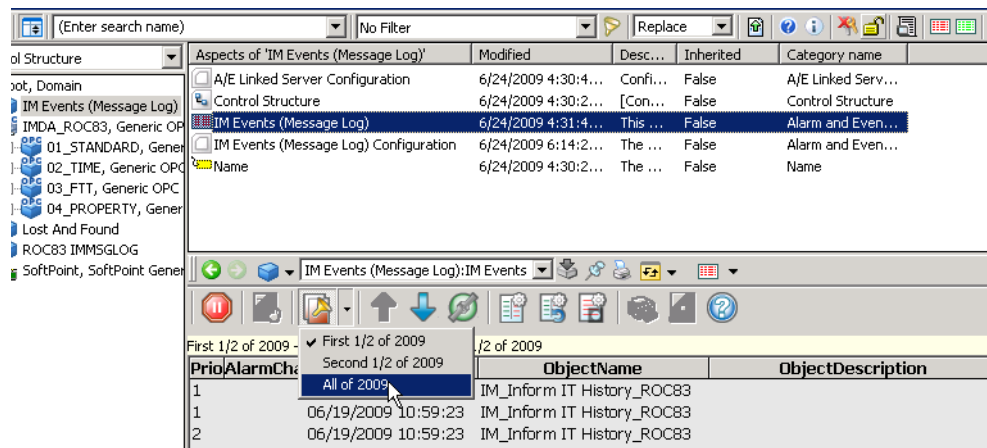

Figure 7. Selecting Predefined Filters
18. An operator is able to select from predefined filters as shown in Figure 7.